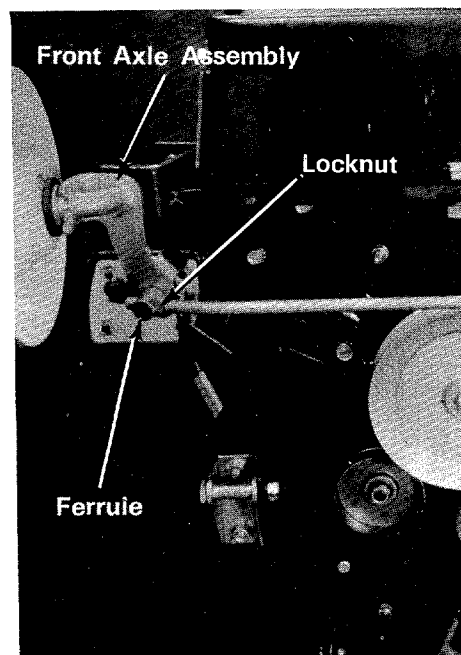

Figure 19.
1. Remove the cotter pin holding the ferrule to the front axle assembly. (See figure 19.)